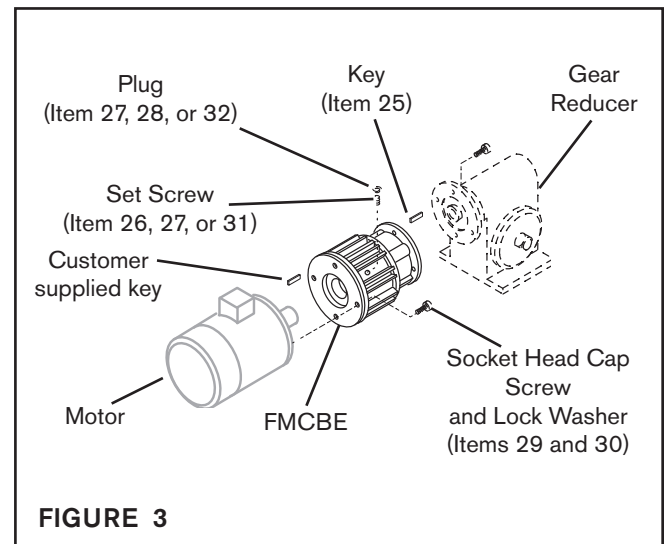

FIGURE 3
1. Insert the Key (Item 25) into the output shaft of the FMCBE (See Figure 3).
2. Slide the FMCBE output shaft into the gear reducer (See Figure 3).
3. Secure the FMCBE to the gear reducer, using customer supplied socket head cap screws, lock washers, and nuts (See Figure 3).
5. Insert the customer supplied key into the motor shaft keyway (See Figure 3).
6. Slide the FMCBE 625 onto the motor shaft (See Figure 3).
8. Align the hole in the FMCBE Housing (Item 1) with the tapped hole in the Drive Disc (See Figure 3).
9. Insert and tighten the Set Screw and then install the Plug (See Figure 3).